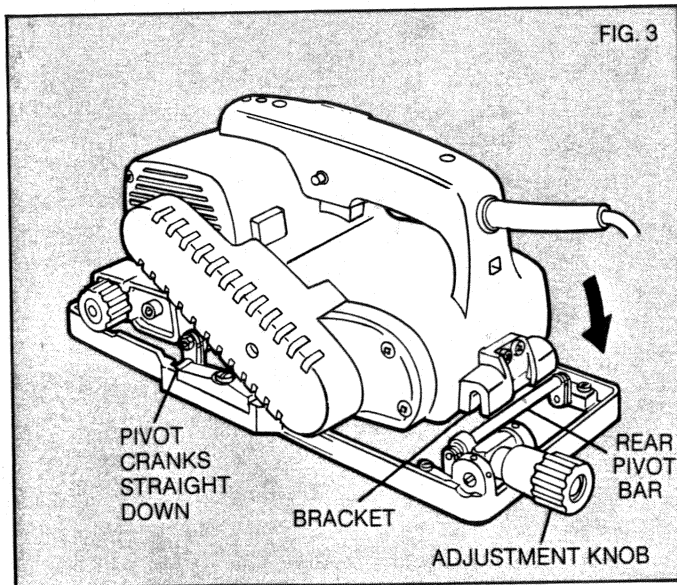

FIG. 3
6. Rotate the back end of the sander down so that the bracket on the sander fits over the rear pivot bar (make sure it snaps firmly) **NOTE:** It may be necessary to move the rear pivot bar into alignment with the bracket on the sander. Move the bar by rotating the adjustment knob on the rear of the frame, as shown in Figure 3.